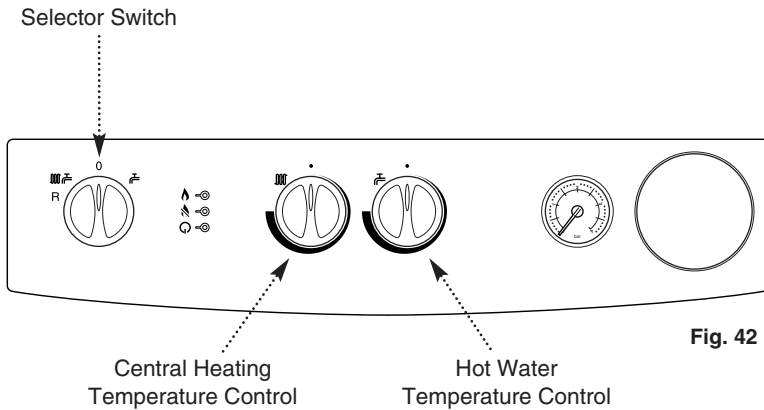

Fig. 42
2. Set the hot water and central heating temperature controls to maximum and the selector switch to the OFF position (Fig. 42).
6. Turn the selector switch to the Central Heating and Domestic Hot Water position (). The power ON light () will illuminate (Fig. 42).